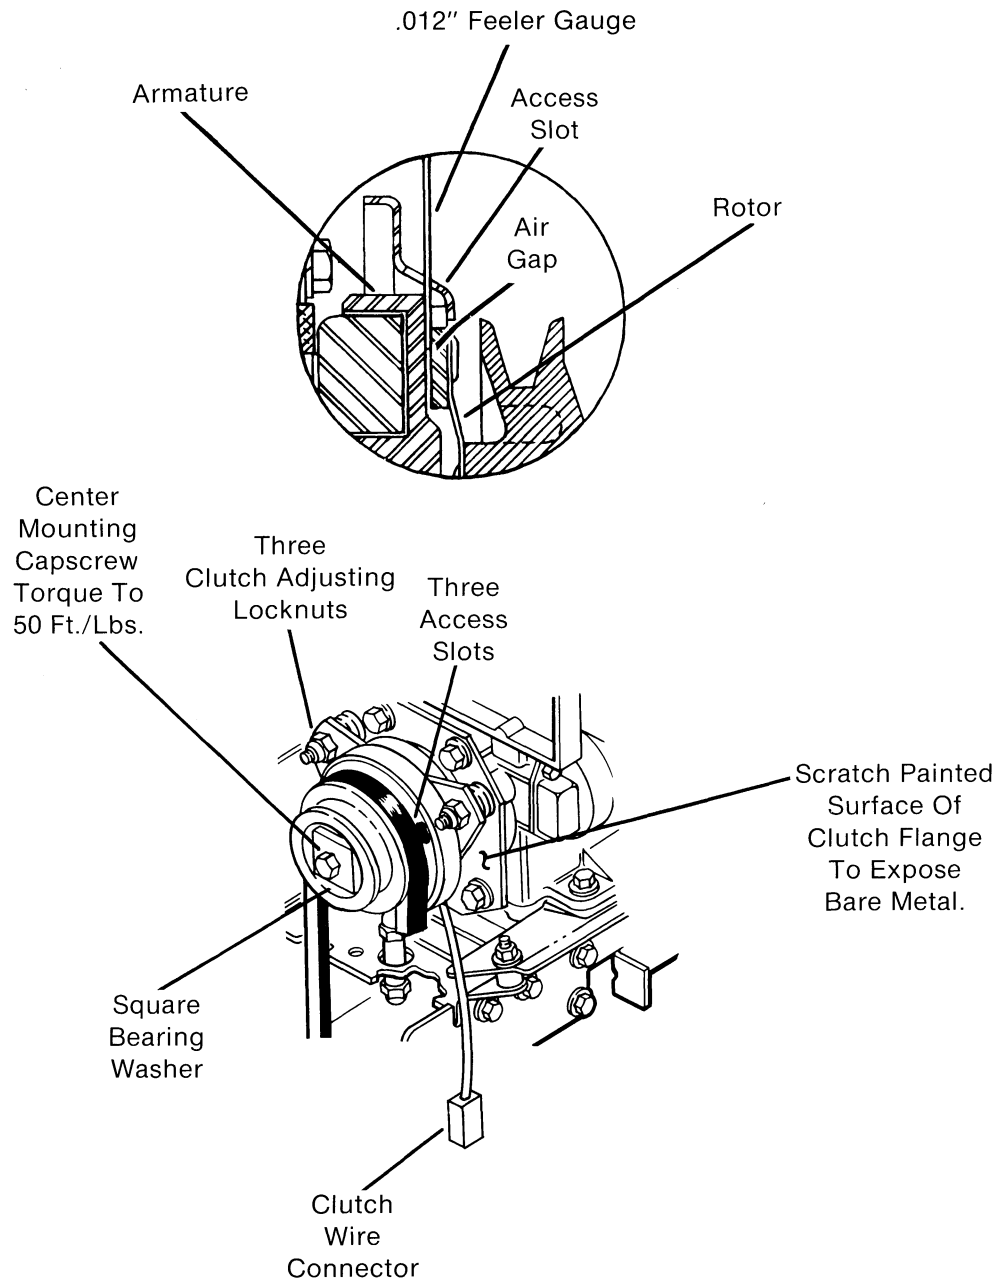

FIG. 11
equally $\frac{1}{4}$ turn **clockwise**. (Fig. 11) This will decrease air gap and allow clutch surfaces to engage. Recheck gaps with feeler gauge, if more adjustment is required, continue turning locknuts equally $\frac{1}{4}$ turn until correct adjustment is achieved.
- B. Using a voltmeter, check voltage at clutch wire, out left side of clutch. (Fig. 11) Connect positive (+) probe to clutch wire connector. Connect negative (-) probe to ground (engine mounting bolt). Turn ignition switch to the RUN position and engage the P.T.O. switch. Voltmeter should register more than 10 volts. If voltmeter does not register a reading, look for broken wires or connections. If voltmeter registers less than 10 volts, check battery charge and/or fluid level. If battery does not hold a charge of at least 10 volts, replace battery. If voltmeter reads over 10 volts, disengage P.T.O. switch and turn ignition switch OFF. Disconnect clutch wire at clutch wire connector and check resistance of clutch field coil as follows:
- C. Using an ohmmeter, connect one probe to clutch coil connector and with a knife, scratch the painted surface of the clutch flange to expose bare metal. (Fig. 11) Make other probe connection there. With ohmmeter set to low ohm scale, a normal resistance reading should be between 2.05 and 2.77 ohms. A reading outside these values indicates a faulty coil and P.T.O. clutch should be replaced as a complete unit when under warranty and field assembly should be repaired or replaced when out of warranty.
- C. Remove four capscrews and lockwashers attaching electric clutch to front of engine. (Fig. 11)
- D. Remove center bolt, square bearing washer and bearing spacer. (Fig. 11)
wire so it comes out right side of clutch housing when facing front of machine. (Fig. 11)